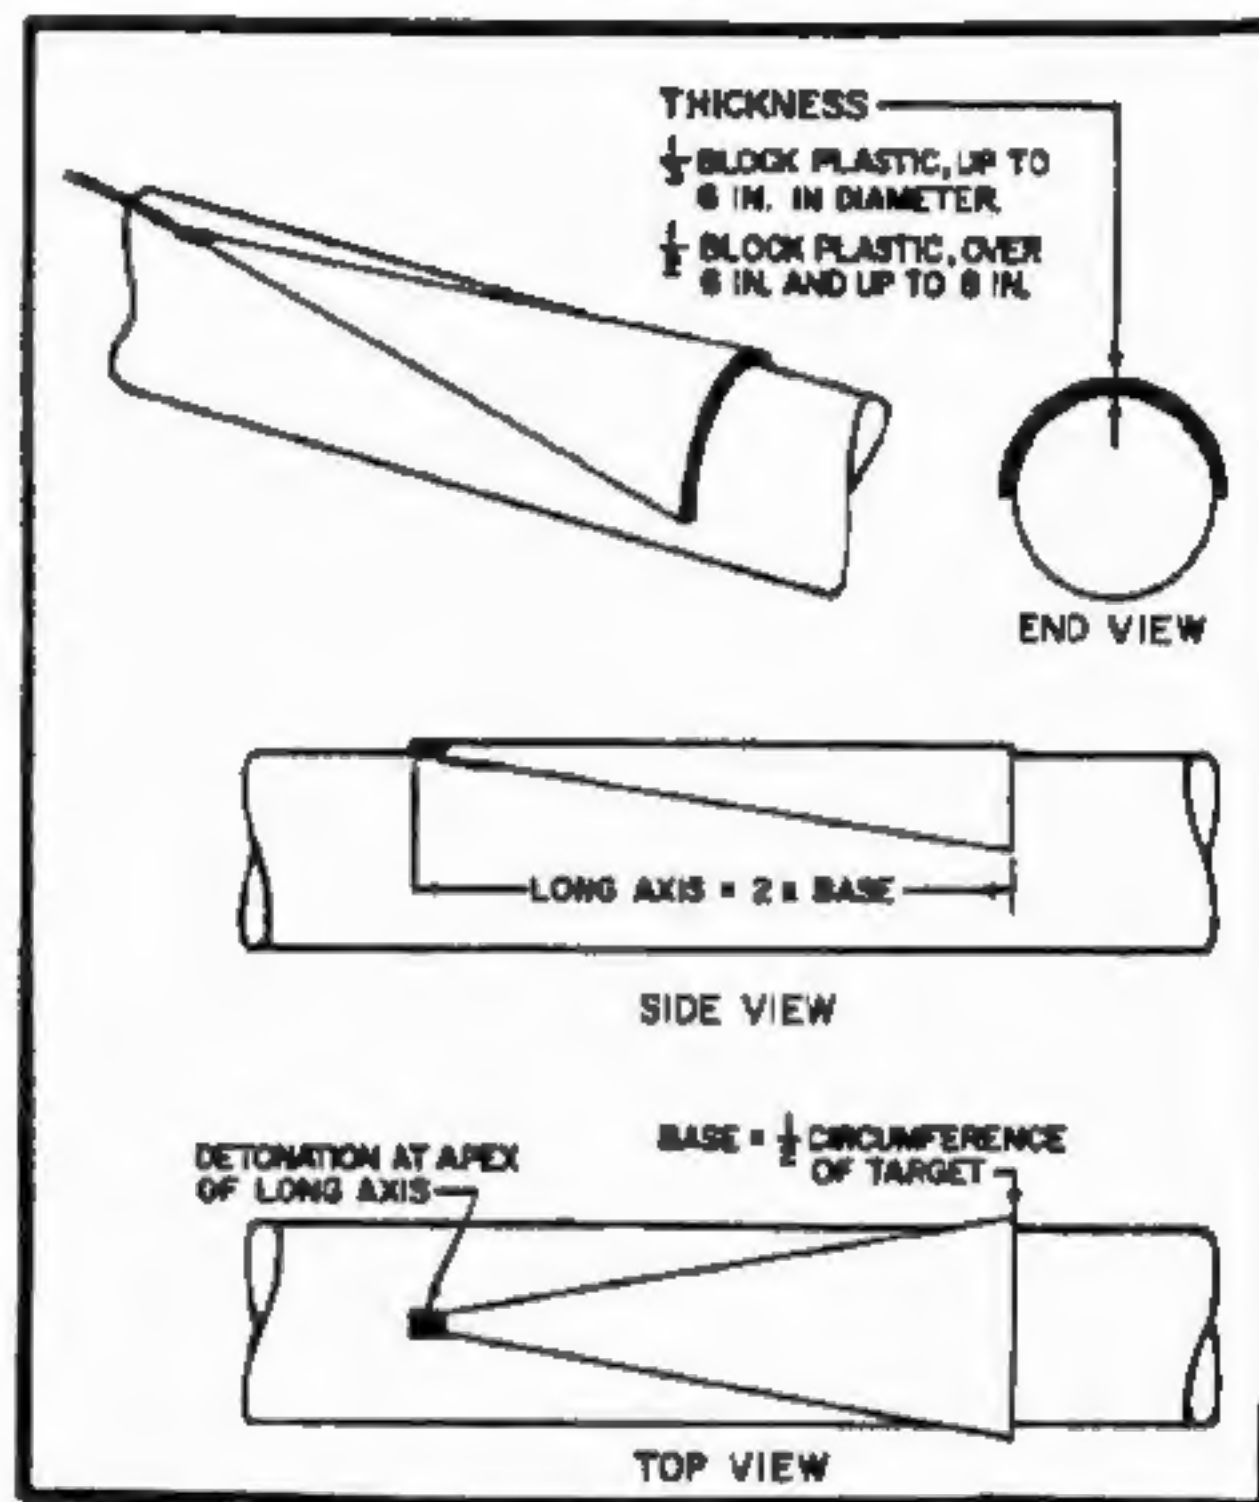

Figure 14 Saddle charge
a. Saddle Charge. This charge can be used to cut mild steel cylindrical targets up to 8 inches in diameter. Dimensions are as follows: The short base of the charge is equal to one-half the circumference. (Note that previously published dimensions called for three times the base, rather than twice the base.) Thickness of the charge is 1/3 block of C3 or C4 for targets up to 6 inches in diameter; use one-half block thickness for targets from 6 to 8 inches in diameter. Above 8 inches in diameter, or for alloy of steel shafts, use the diamond charge. Prime the charge from the apex of the triangle, and the target is cut at a point directly under the short base by cross-fracture. Neither the saddle nor diamond will produce reliable results against non-solid targets, such as gun barrels. These charges benefit from prepackaging or wrapping, providing that no more than one thickness of the wrapping material is between the charge and the target to be cut. Heavy wrapping paper or aluminum foil are excellent, and parachute cloth may be used if nothing else is available. (See figure 14.)